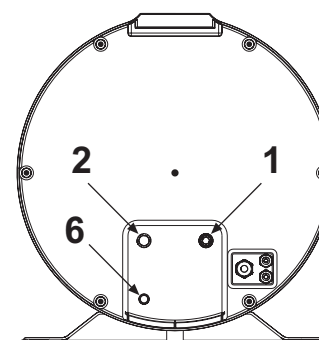

fig. 55
- Connect the cold water supply line and the outlet line to the appropriate connection points (fig. 55).